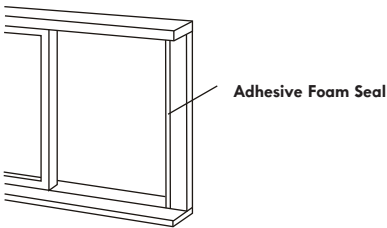

Fig.12
- 1. Cut a length of adhesive foam seal the height of the window and attach it to the window frame (see Fig. 12).